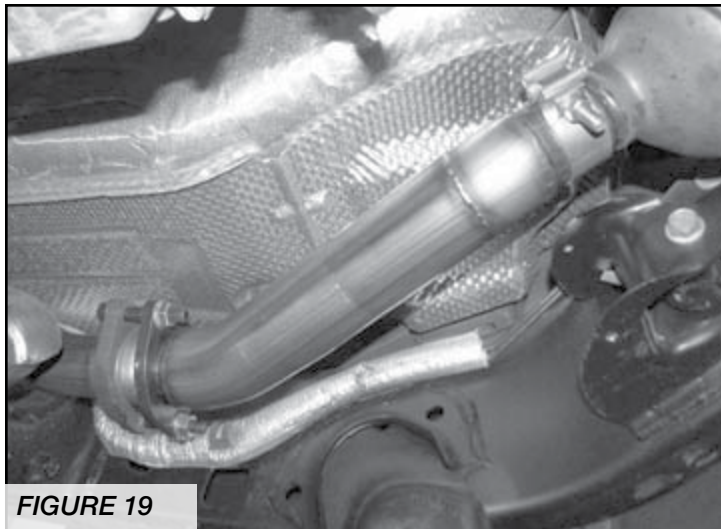

FIGURE 19
16. Rotate the rear of the pipe with the two bolt flange up to the factory flange and install the hardware. Torque the two bolt flange and clamp to 37 ft-lbs. **SEE FIGURE 19.**